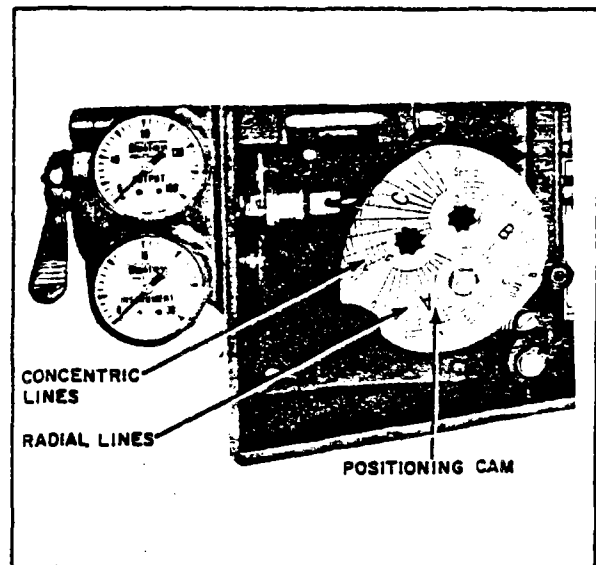
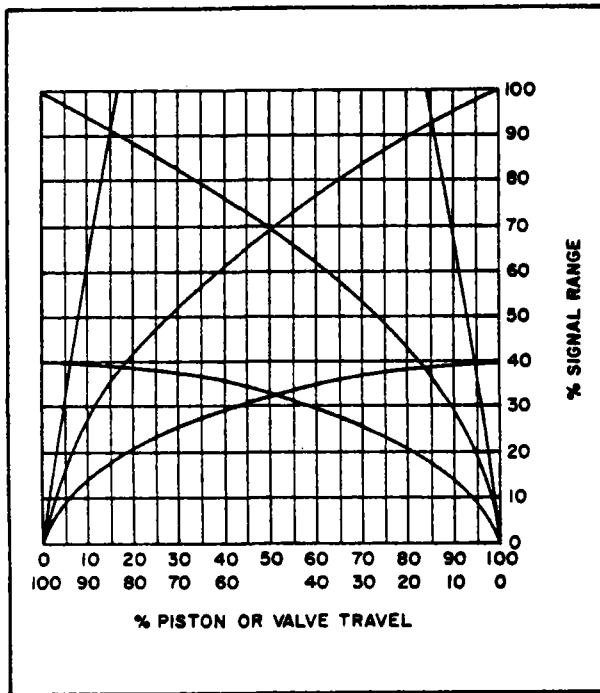

FIGURE 11 - Characterized Cam
FIGURE 12 - Cam A, Square Root Relation
The range adjustment affords a variation of power operator motion for a given range of control signal pressure. In combination with the zero adjustment described above, full piston (or valve) travel may be obtained for a signal pressure change as small as 6.0 psi (3-15 psi unit). Range adjustments available for each of the three cam variations furnished are shown in Figures 12, 13 and 14. This adjustment is of value when the device being regulated by the power operator is oversized, since the adjustment allows operation of the power operator thru its useful motion for the desired full change in control signal pressure. It is also useful in matching the signal versus position characteristic of the power operator with those of related power devices in the same control system.
Positioning cams A, B and C (Figure 11) are furnished with each Positioner (the B cam is shipped assembled in place and the A and C cam are included on the same part, but are inactive). The characteristics for which the cams are shaped are listed in Table 4 and are shown in Figures 12, 13 and 14. The figures show a family of curves for each cam, each curve representing a range adjustment when used with that specific cam. Table 3 shows control signal pressure values of the two control system ranges equivalent to the signal range percent values in Figures 12, 13 and 14.
4. Compare curve plotted in step 3 with curves shown in Figures 12, 13 and 14. Select positioning cam whose characteristic most closely matches control signal pressure versus piston (or valve) characteristic plotted in step 3.
CAUTION: Before cutting any cam, make certain cutting will involve **REMOVAL OF CAM MATERIAL**, rather than building up of material. For example, if the characteristic plotted lies between the A and B cam (Figure 12 and 13), the A cam should be cut.